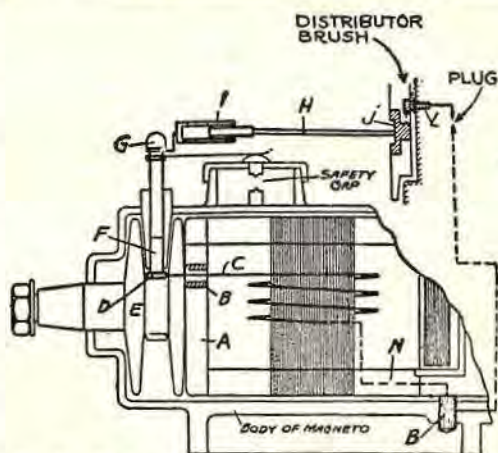

Fig. 12. High-tension circuit in an "armature-type" magneto.
Fig. 12 shows the high-tension circuit in the armature-type machine. In the metal armature head (A) is the insulating bushing (B), through which the free end (C) of the high-tension winding passes. This connects to a metal ring (D) carried on the rubber spool (E). A brush (F) engages